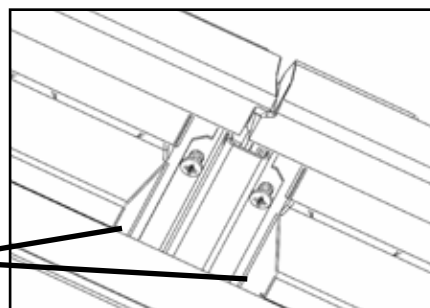

Fig. 2
- 21b Install a Roof Cap Cover (AW) at the back of the Shed.
- 21c Along the outside edges of the shed, fasten the Trusses to the underside of the Roof Panels (Fig. 1). Insert two Foam Cubes (BG) at each truss location (Fig. 2).
- 26c Slide Door Trim Clips (CK) into the top of the Side Door Trim (AR) (Fig. 1), on each side of the door. Slide the Top Door Trim (AS) into place, and Secure with the Door Trim Clips (Fig. 2).